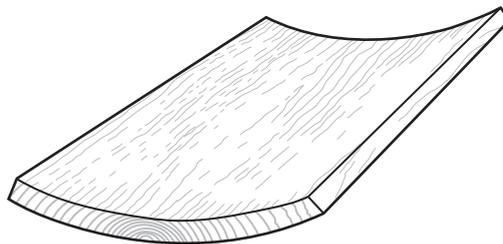

Fig. 3.1
- 3 Fig. 3.1 shows a solid wood board that has warped.